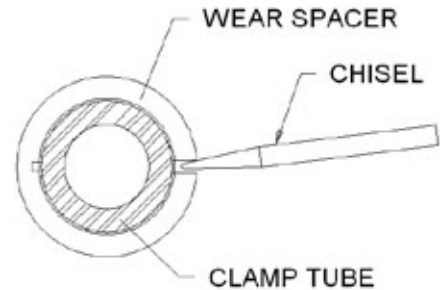

Figure 11
4.2.3.2 Wear adjustment can be conducted without full disassembly of the Multi-disc DBBS brake. The wear adjustment spacers are slotted to allow for easy removal with a chisel. See Figure 11.
4.2.3.5 Using a narrow chisel wedged into the slot in the wear spacer, pry the wear spacer until it fractures and is clear to be removed from the stud. Repeat for the remaining spacers in the set that is to be removed (one spacer from each stud position). See Fig 11.